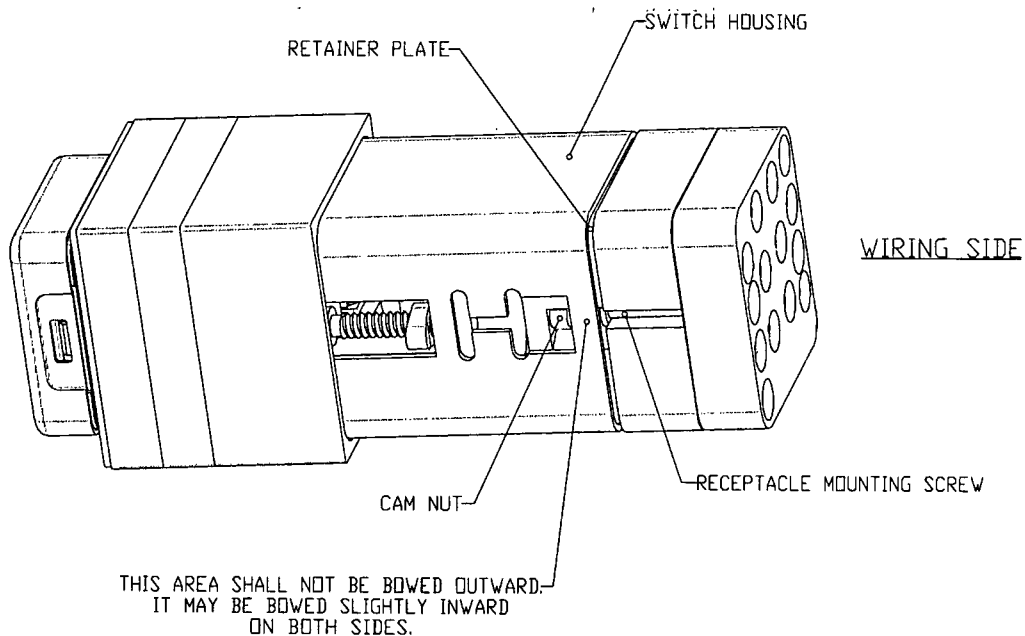

Figure 48 Switch Assembly
4. Put the receptacle in its proper position in relation to the switch contact pins and carefully, but firmly, insert pre-wired receptacle assembly into the switch housing until it is fully engaged with switch pins (there shall be no sizable gaps between edges of switch housing and stopping surface of the retainer plate). See Figure 48 for reference.